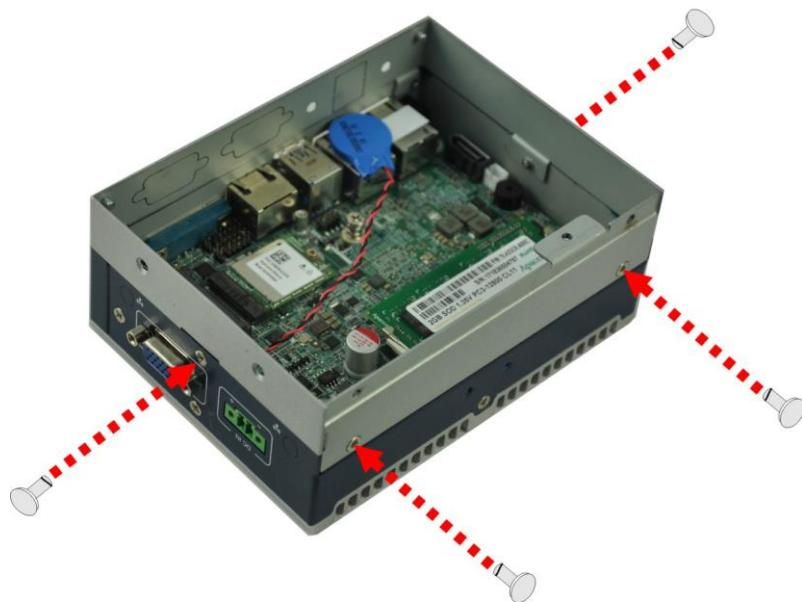

Figure 3-12: Additional Block Layer Installation
Step 2: Install the additional block layer by securing the four retention screws. (**Figure 3-12**).